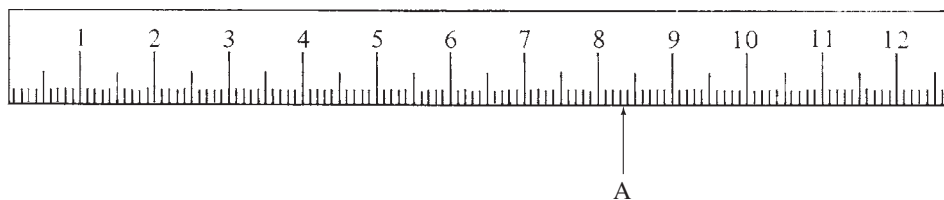

Figure 1.2
The measuring device usually contains a scale. The scale, with its subdivisions or graduations, tells the limits of the device's accuracy. You cannot expect to obtain a measurement better than your instrument is capable of reading. Consider the portion of the ruler shown in Figure 1.2.
scale is marked. For example, in Figure 1.2 there is a reading marked on the ruler. This value is 8.35 cm: two numbers are known with certainty, 8.3, and one number, 0.05, is uncertain since it is the *best estimate* of the fractional part of the subdivision. The number recorded, 8.35, contains 3 significant figures, 2 certain plus 1 uncertain. When dealing with *significant figures*, remember: (1) the uncertainty is in the last recorded digit, and (2) the number of significant figures contains the number of digits definitely known, plus one more that is estimated.